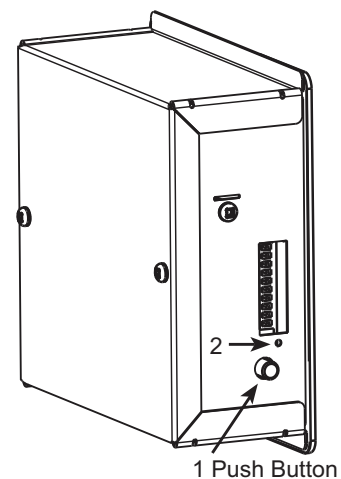

Fig. 19 – Integrated Control
All units are equipped with an integrated control, located in front of the electrical compartment. See Fig. 19. Use the push button (1) to control the unit. The LED (2) will then show on which mode the unit is in.